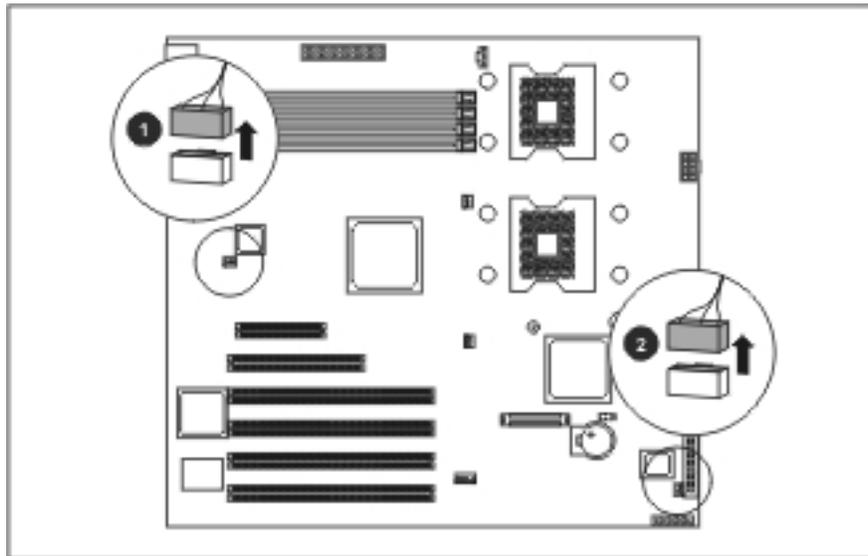

Figure 2-9: Disconnecting the fan cables from the system board
1. Disconnect the front system fan cable from the system board. Refer to Figure 2-9.
2. Press the two tabs of the fan holder together towards the center of the fan module (1) to release the fan module from the front panel.
3. Carefully lift the fan module out and away from the chassis (2).